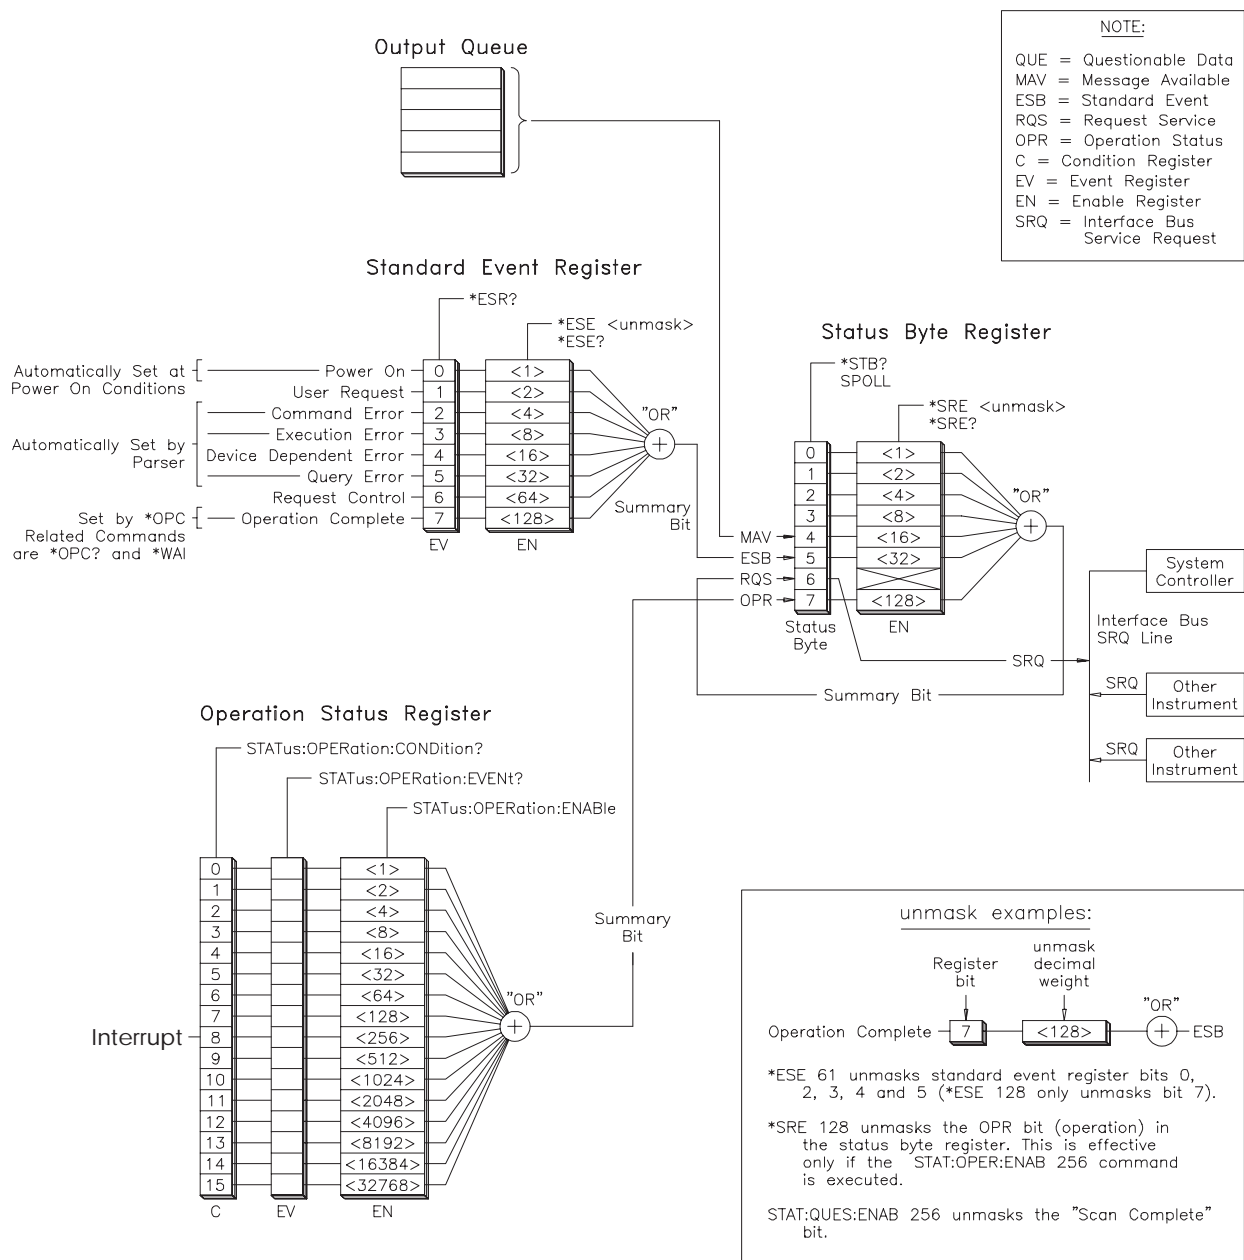

Figure 3-1. HP E2261A Status System Register Diagram
The STATus system contains five registers, two of which are under IEEE 488.2 control: the Event Status Register (*ESE?) and the Status Byte Register (*STB?). The Operational Status bit (OPR), Service Request bit (RQS), Event Summary bit (ESB), Message Available bit (MAV) and Questionable Data bit (QUE) in the Status Byte Register (bits 7, 6, 5, 4 and 3 respectively) can be queried with the *STB? command. Use the *ESE? command to query the *unmask* value for the Event Status Register (the bits you want logically "OR'd" into the Summary bit). The registers are queried using decimal weighted bit values. The decimal equivalents for bits 0 through 15 are included in Figure 3-1.
- <mask> determines which OPERATION Status conditions are summed. See Figure 3-1. The events detected in the Port Summary Status Register are reported in bit 9 of the Operation Status Register which in turn is reported in bit 7 of the Status Byte Register.
- The only defined bit is bit 9 which is the summary of the Data Available and Edge Status for Ports 0, 1, 2, and 3. See Figure 3-1.